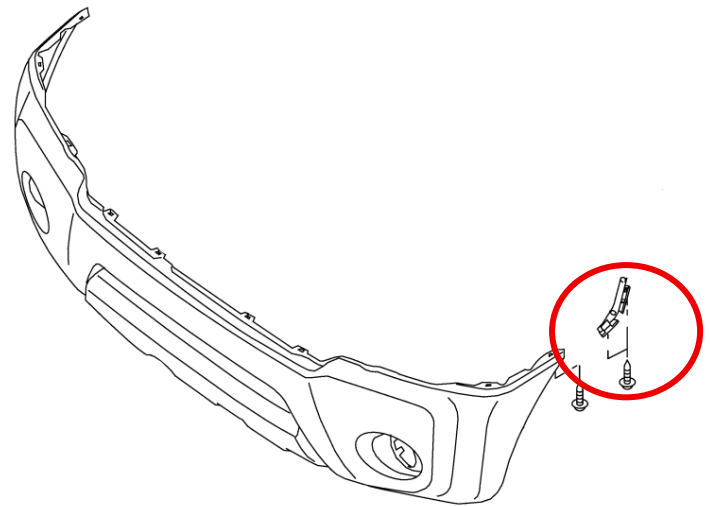

Figure 9
14. Remove the (2) two bolts securing each of the OE Bumper Tabs on the underside of the Front Fender. *Figure 9.*